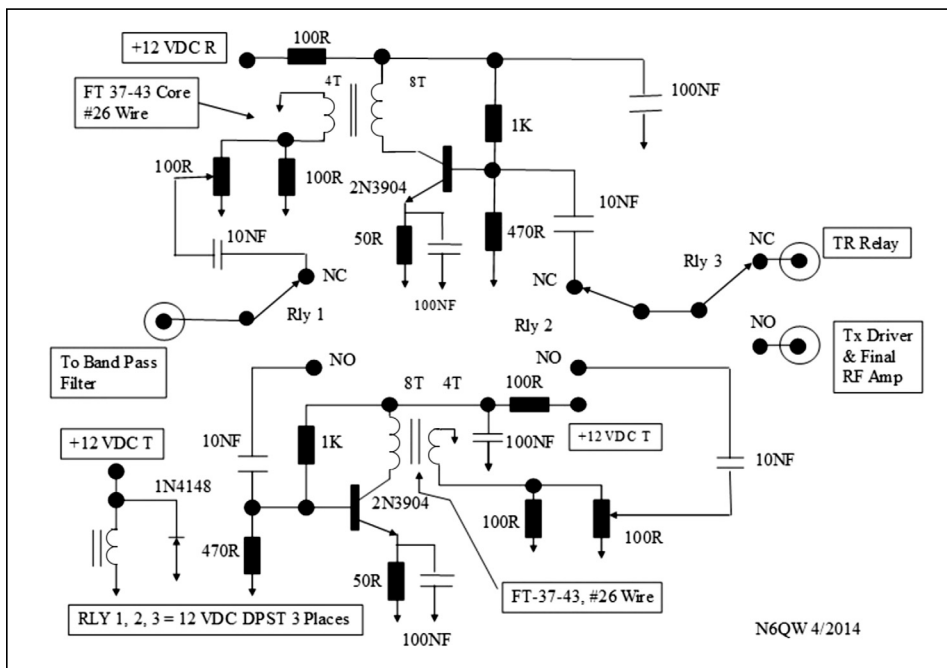

Figure 5—RxTx Bidirectional Amplifier stage.
**Tx Amplifier**—Another identical 2N3904 amplification stage to increase our signal strength on transmit, built identically to the Rx Amplifier in LBS Part I. Note that the actual physical construction should follow the photographs on the website. This arrangement avoids any unwanted coupling from the toroids. Electrically, the schematic and the physical build are the same. The schematic for this amplifier was shown in Part I as the bi-directional amplifier stage. The only difference is the addition of a third relay. This is Figure 5.